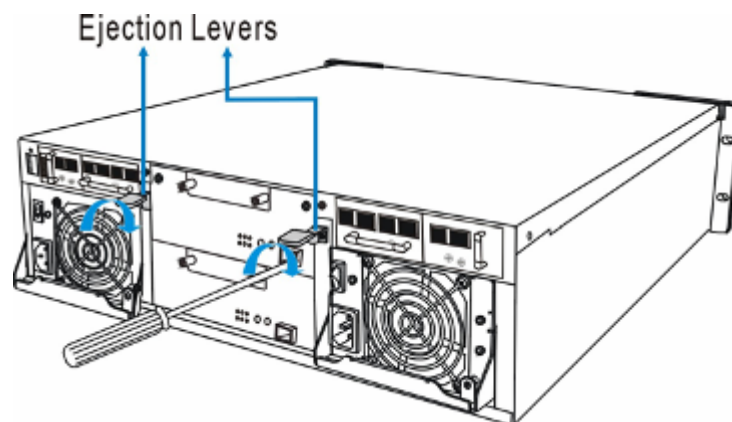

Figure 5-5: Securing Controller with Screws
Step 4. Secure the controller module to the subsystem. Secure the levers by fastening two (2) screws through holes underneath the levers to secure the controller module in place. (See *Figure 5-5*)